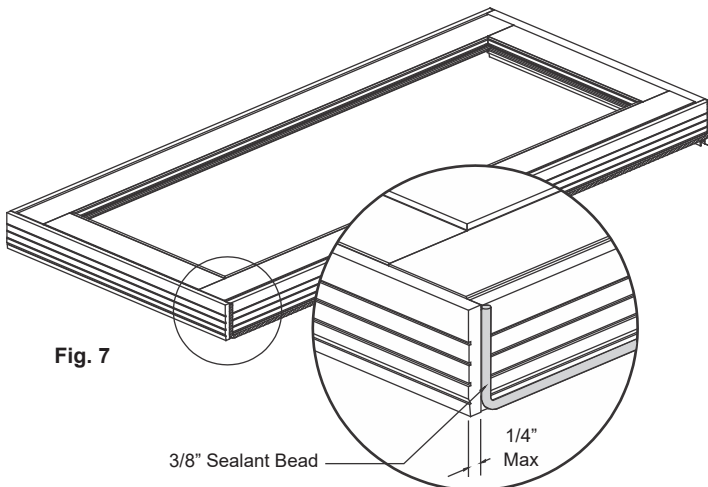

Fig. 7
6. Apply a 3/8" bead of sealant to the jambs where the blocking will be attached. The bead must run the width and full length of the unit and be a maximum of 1/4" away from the interior. See Figure 7.
9. Before clamping other product to the unit with the blocking now attached, apply a 3/8" bead of sealant as previously done in step 6, figure 7.